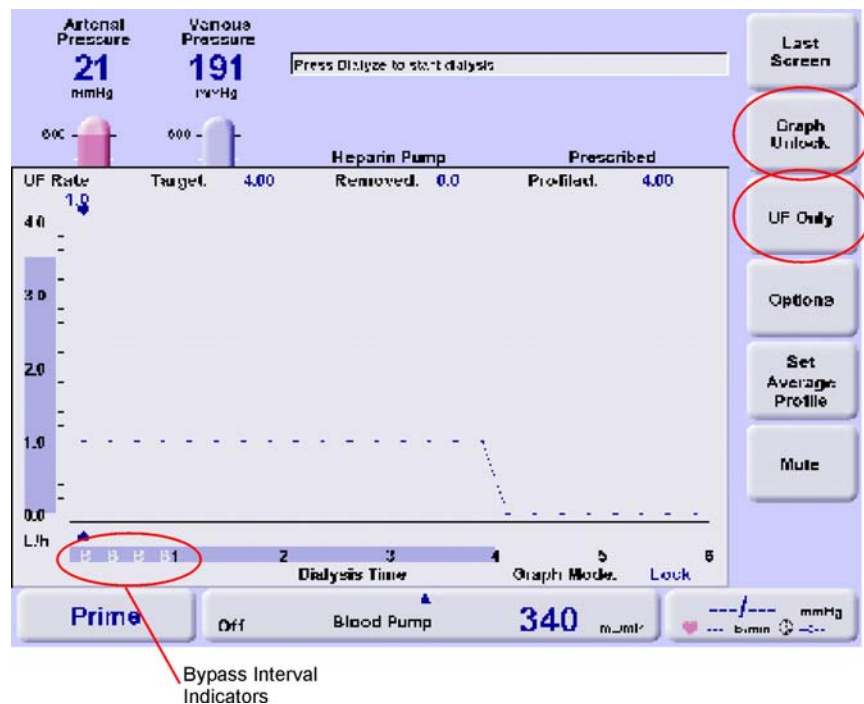

Figure 8-12. UF Only Bypass Intervals
The UF Only bypass intervals ("Bs") can be set using the Profile UF screen as follows (see Figure 8-12).
4. On the Profile UF screen, press the Graph Unlock button, then select UF Only (see red circles upper right side of screen in Figure 8-12). The label on the UF Only button will change to UF Only Verify.
7. Program the Bypass points on the graph by touching anywhere on the graph with your finger. A "B" will appear in the intervals selected (see Figure 8-12). If touched again, the "B" is turned off. If you have difficulty turning the "B" indicators on or off, try selecting a longer interval as described in Step 5.